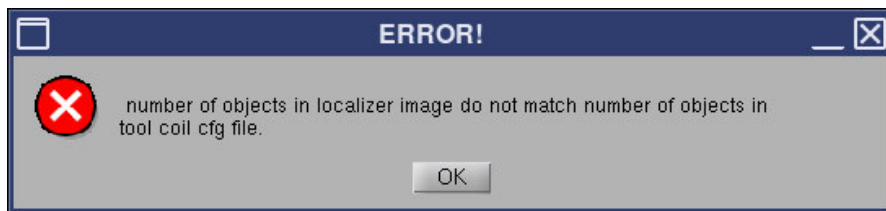

Figure 9: Error message related to wrong phantom. Place only one phantom in one of the cavities. Tests with two phantoms simultaneously are not possible.
- Incorrect phantom used for the test (cf. Figure 9)